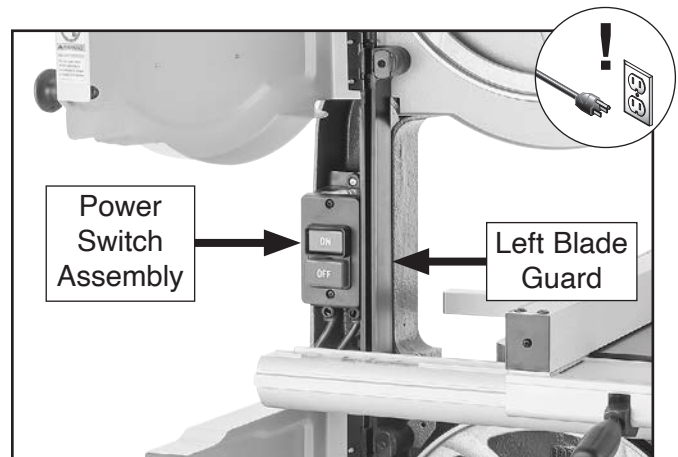

Figure 2. Location of power switch assembly and left blade guard.
3. Remove left blade guard (see **Figure 2**).
4. Remove power switch assembly and set aside (see **Figure 2**).